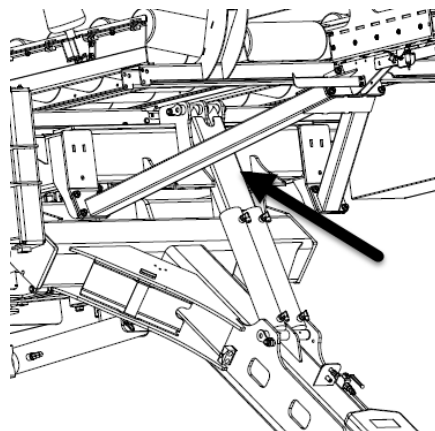

Figure 41 — Setting Up the Safety Stand
2. Place the stand on the cylinder rod, as shown in Figure 41.